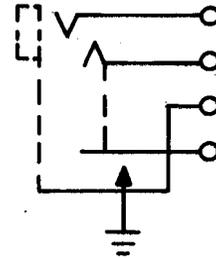

Fig. 9—510A Jack
2.09 510A: The 510A (Fig. 9) is a unit-type jack. This jack is designed for strip-type mounting and is used with the 309 or similar-type plugs. The 510A jack is used with the 259A or 260A jack mounting and furnished only on orders for jack mountings. The center springs are equipped with standard bar-type contacts of No. 2 metal. The terminals are designed for mechanically wrapped connections. This jack is used as a trunk jack of the 608A PBX. Connec-